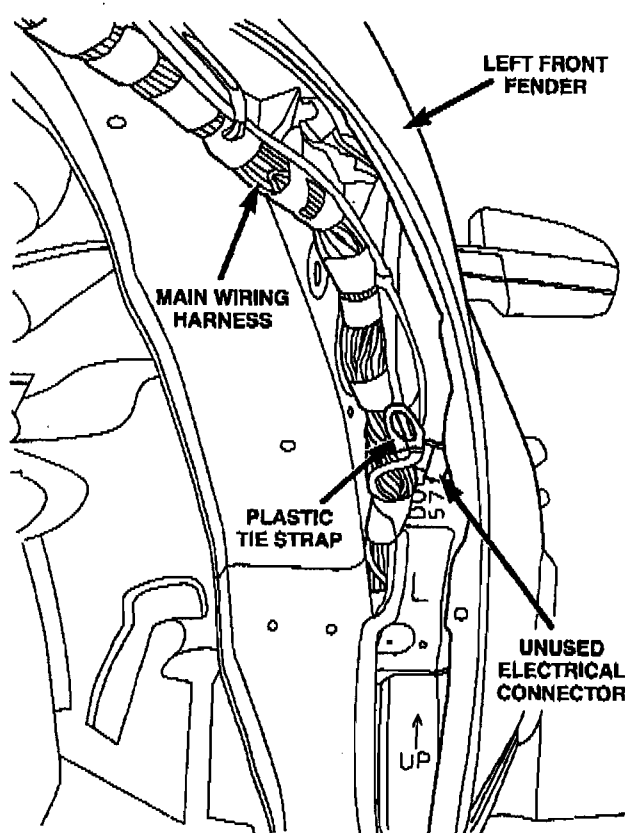

Figure 1
5. Locate the unused 6-cavity tire pressure monitor electrical connector that is tie strapped to the main wiring harness (Figure 1).
6. Cut off and discard the plastic tie strap that holds the 6-cavity unused electrical connector to the main wiring harness (Figure 1).